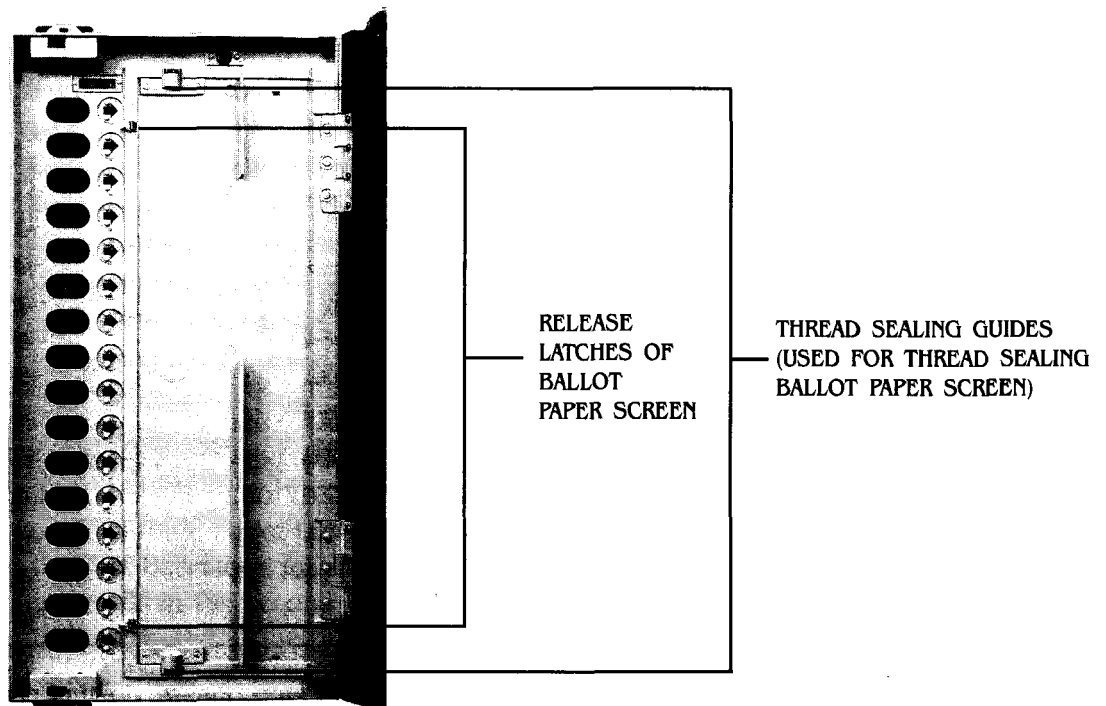
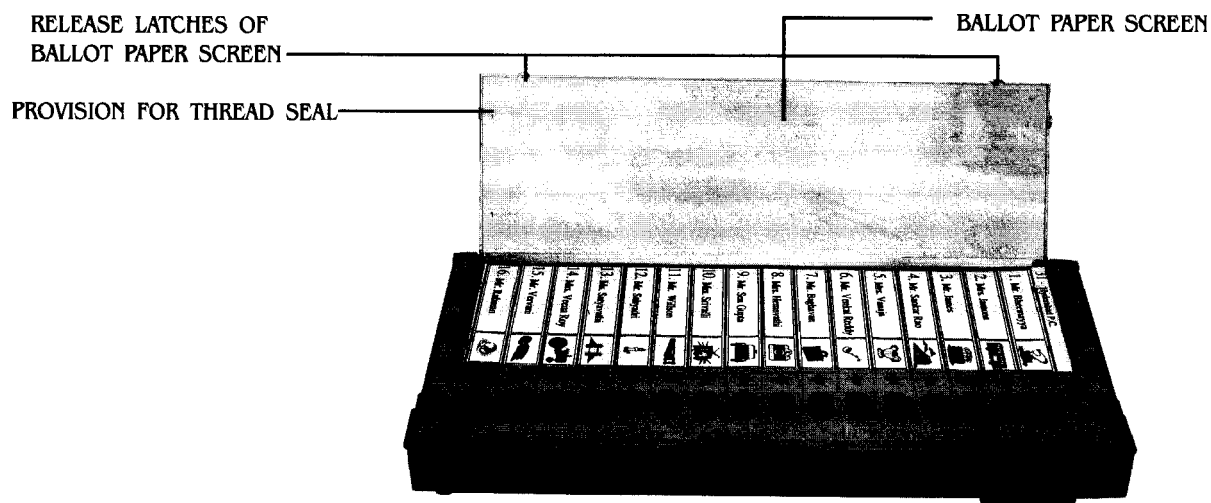

Fig.15 Inside View of Top Cover
Fig.16 View of the Upper Side of Top Cover
4. Open the ballot paper screen which is a transparent acrylic sheet hinged to the top cover on the extreme left side. The release latches of the screen are inside the top cover (Fig. 15). By pressing the latches simultaneously, first slightly towards right and then pushing them downwards, the ballot paper screen will become free for opening on the upper side of the top cover (Fig. 16). While opening the screen care should be taken to ensure that it is not damaged.
6. After the ballot paper has been firmly fixed and the ballot paper screen has been pressed fit on the upper side of the top cover, the screen is to be sealed on the inner side of the top cover. This is to be done by passing the thread through the two holes on the screen specially provided for the purpose (Fig. 15) and by putting the thread seal on the prescribed address tag showing the particulars of the election with the seal of the Returning Officer.